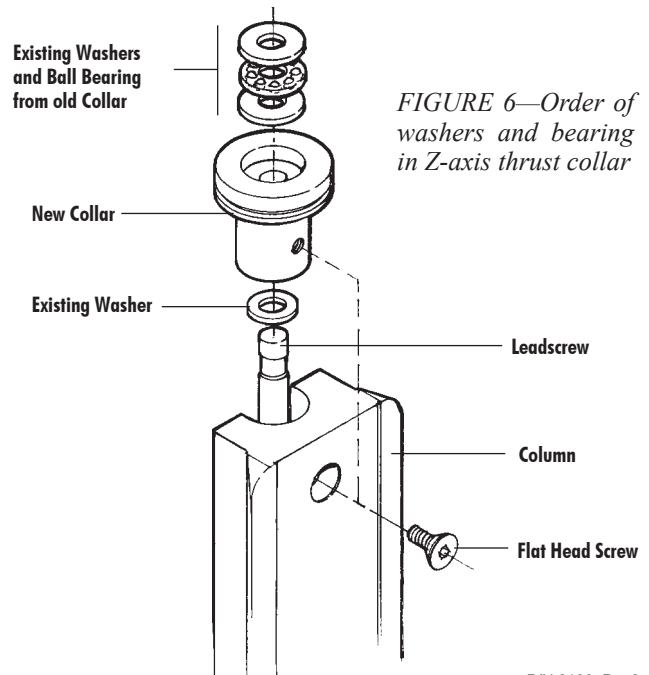

FIGURE 6—Order of washers and bearing in Z-axis thrust collar
- that holds the Z-axis thrust collar to the column. Remove the collar by lifting it up and off the Z-axis leadscrew. If the spacer washer sticks to the bottom of it, remove it and reinstall it on the leadscrew shaft. Then remove the ball bearing thrust and two washers from the collar and reinstall them in the new Z-axis thrust collar in the same order. (See Figure 6.) Install the new collar on the leadscrew shaft and secure it to the bed with the flat head screw.